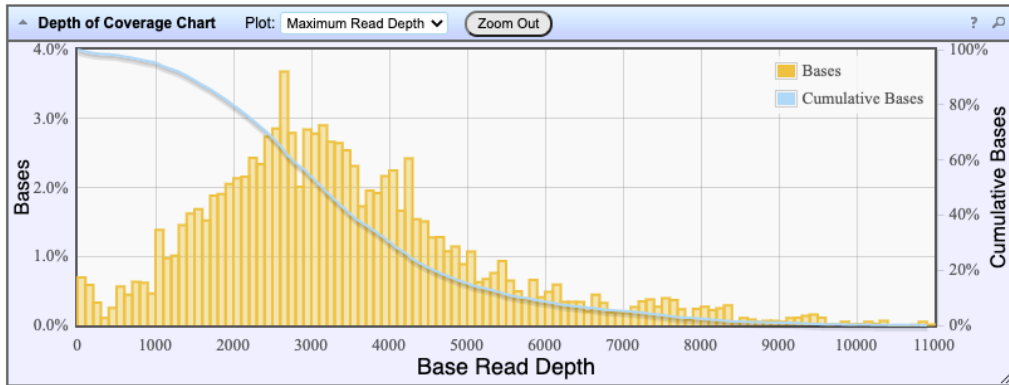
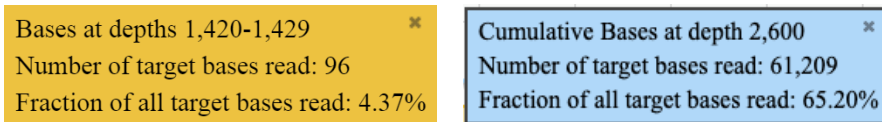
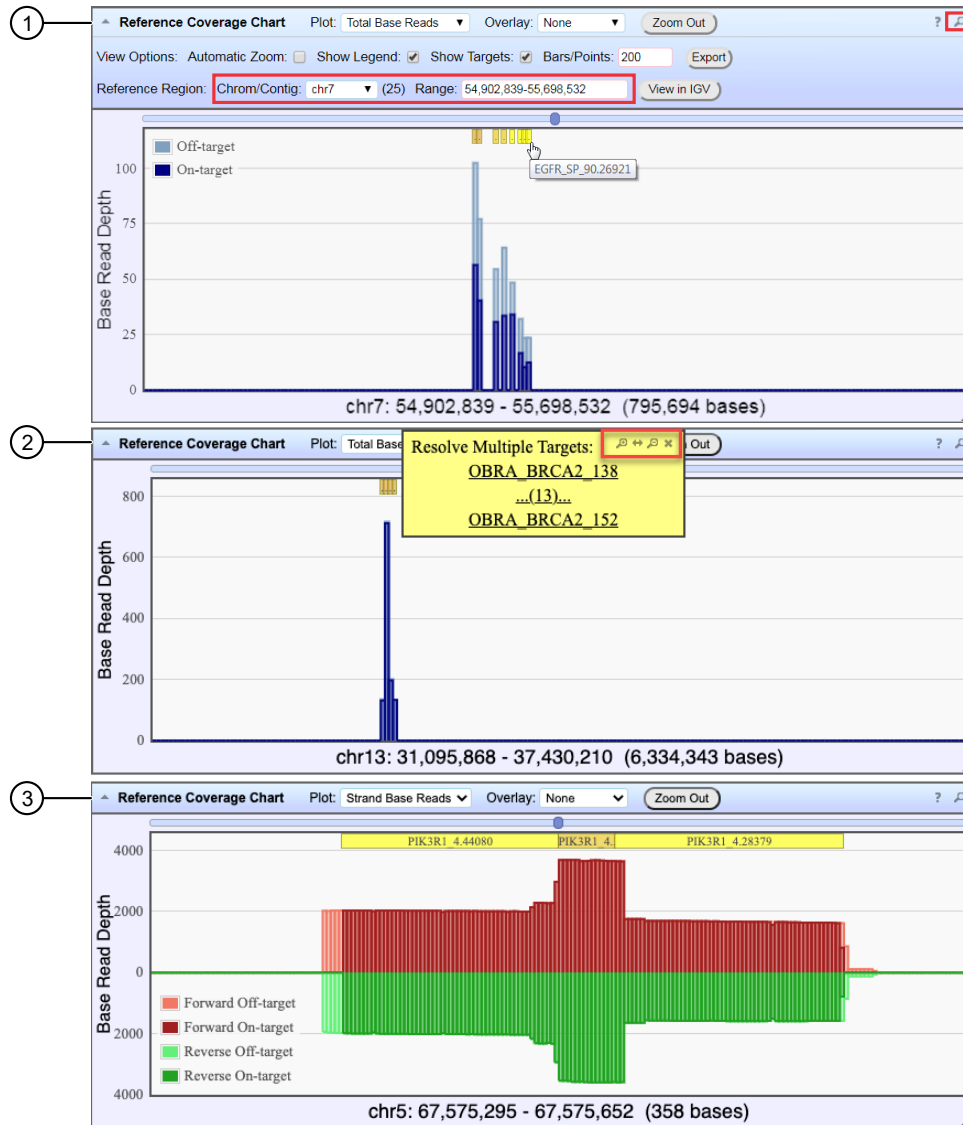

Figure 5 Representative Depth of Coverage Chart
Figure 6 Example detail panes
**Figure 8 Representative Amplicon Coverage Chart**
In most charts, you can click a data point to open a detail pane for that data. For example, in the Depth of Coverage Chart in Figure 5, click an individual orange bar to open the detail pane for bases within a specific range of base read depths. Click a point on the blue curve to open the detail pane for cumulative bases at that base read depth or greater. For example detail panes, see Figure 6. Similarly, you can click any point or bar within the Amplicon Coverage chart to view details for each amplicon coverage bin (see Figure 8).
- ① Example Total Base Reads plot with Viewing Options panel expanded. The plot is zoomed in on a specific chromosomal region. Click a yellow bar (top of the chart) to open the detail pane for a specific amplicon in the Amplicon Coverage Chart (see callout 2 in Figure 8).
- ② Example Total Base Reads plot where a chromosomal region has multiple targets. In the Resolve Multiple Targets pane, click to zoom in on the region, or click one of the links to open the detail pane for the specific amplicon in the Amplicon Coverage Chart.
- ③ Example Strand Base Reads plot that is zoomed in on one specific amplicon. Click the yellow box to open the detail pane for the specific amplicon in the Amplicon Coverage Chart.